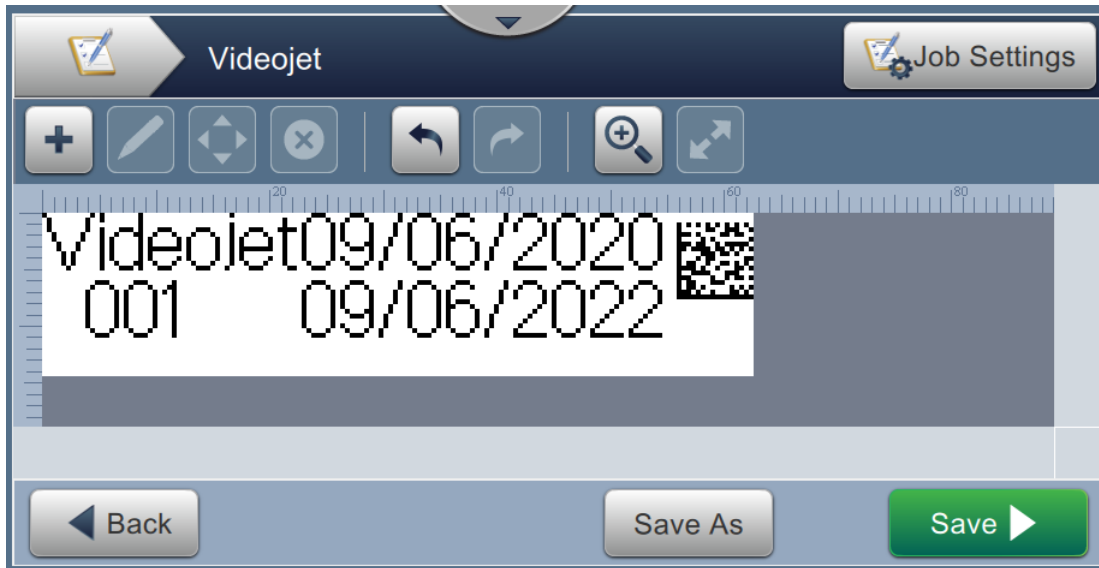

Figure 6-9: Sample Job
11. Select the field and either drag or use the  button to move the field to the location as shown in Figure 6-9 on page 6-14.
17. Select the field and either drag or use the  button to move the field to the location as shown in Figure 6-9 on page 6-14.